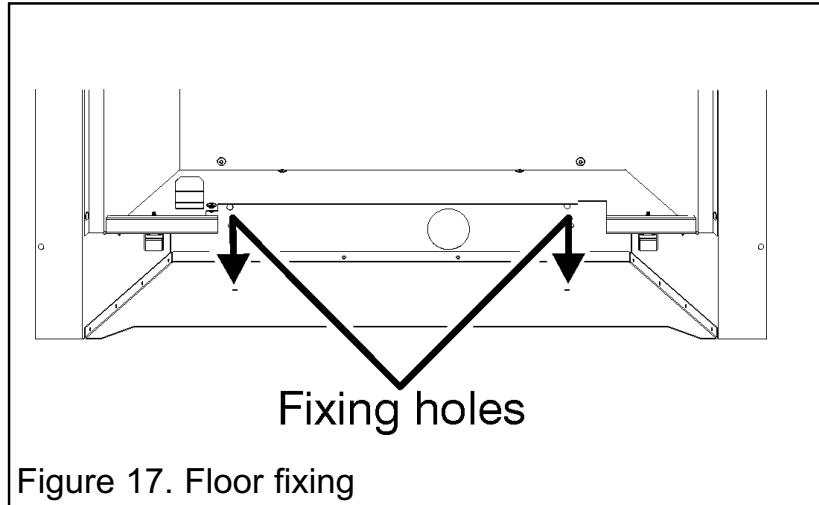

Figure 17. Floor fixing
5. Mark the base of the fireplace through the holes in the fire base (See figure 17). Remove the fire from the fireplace.